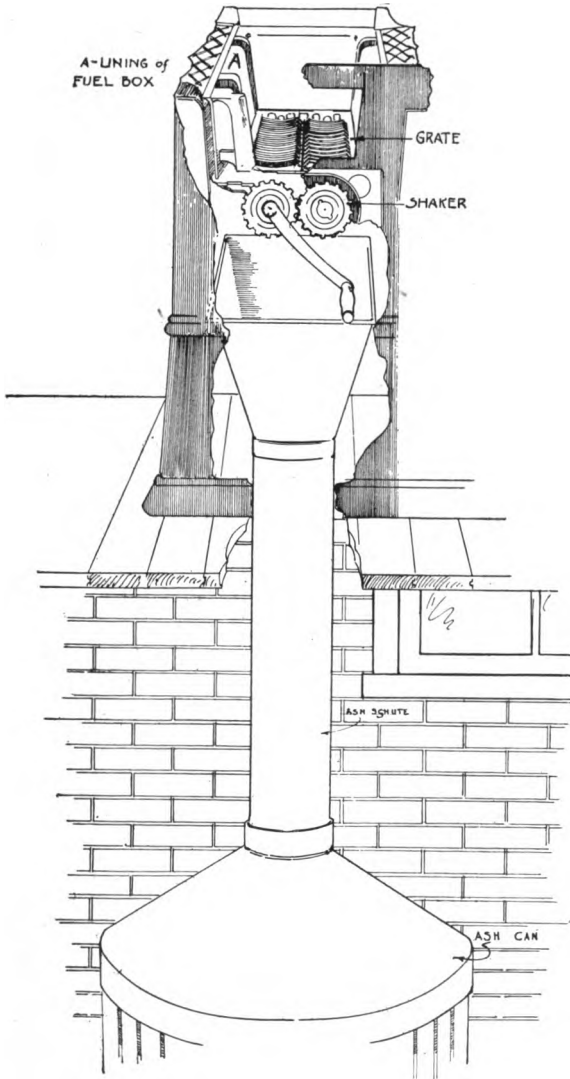

FIG. 3. Ash chute.
**8. Ash Chutes.** In some modern houses, there are ash chutes which carry the ashes directly from the kitchen stove to a receptacle in the basement (Fig. 3). These have to be installed with care. If there is a draft of air which cannot be regulated from the basement up thru the fire box, the fire will burn too fast. There should be a damper to regulate drafts here. An ash chute saves much dirt in the kitchen.